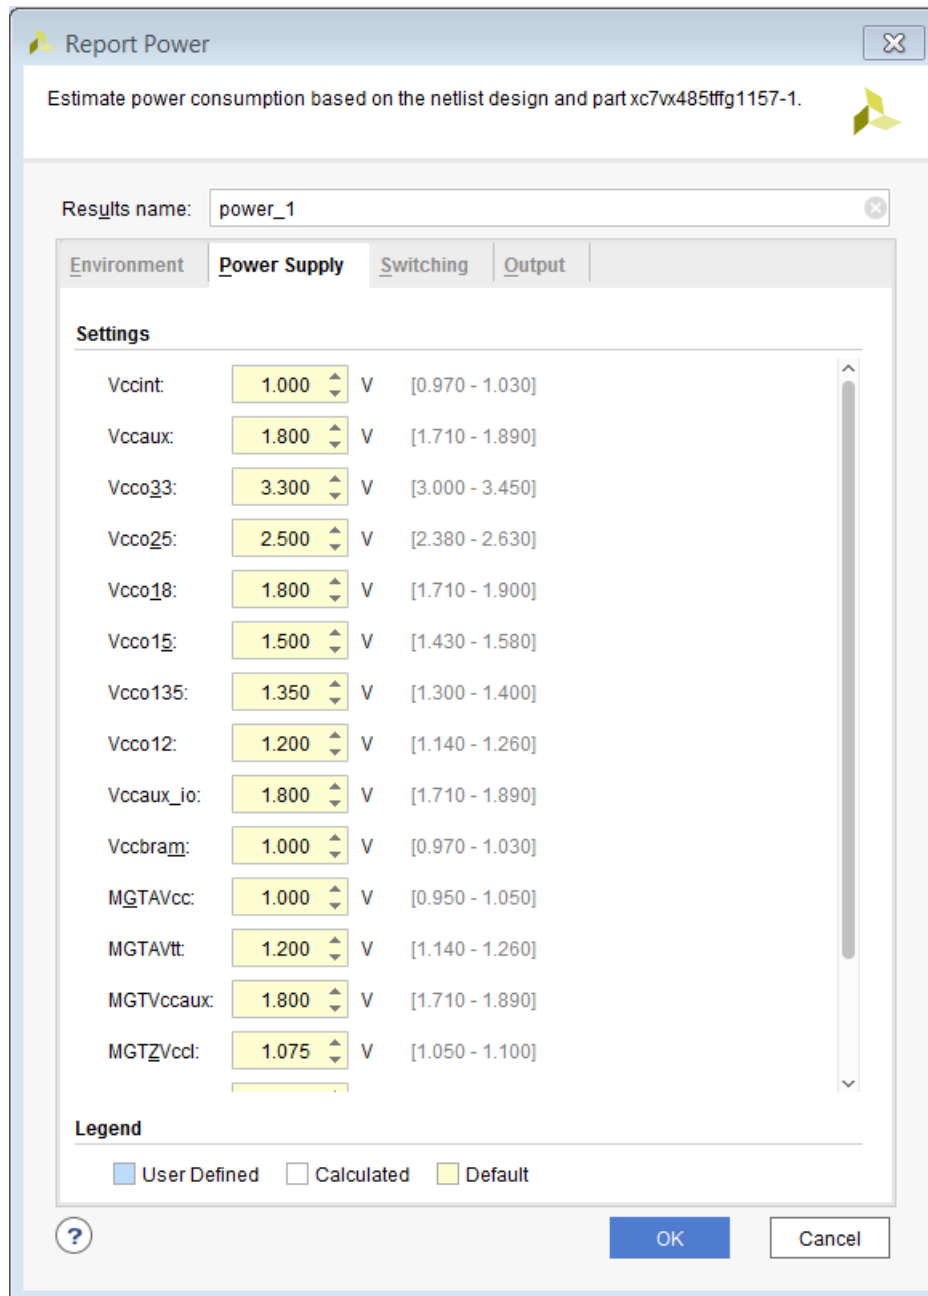

Figure 9: Report Power Dialog Box – Power Supply Tab
- In the **Environment** tab, set **Process** to **maximum** for a worst case power analysis. Examine the **Power Supply** tab (Figure 9).